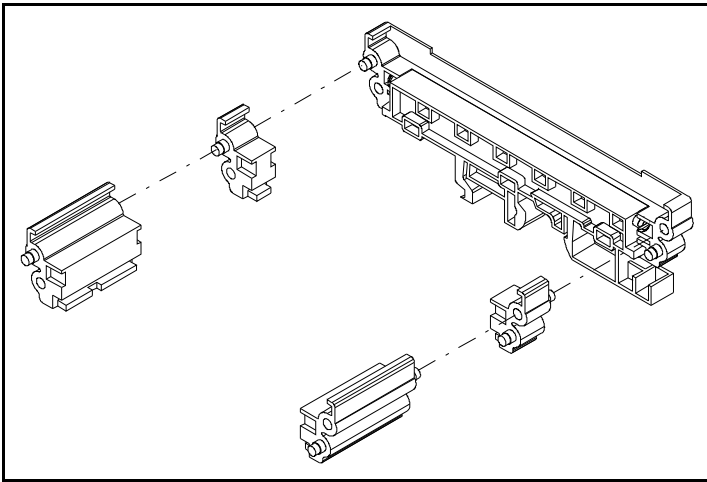

FIG. 3-6 INSTALLATION OF THE RAIL PIECES
- Step 2. Take one of the small rail pieces and insert the rail pins into the end piece. (See Fig. 3-6)
- Step 3. Take one of the large rail pieces and insert the rail pins into the small rail piece. Do this on both sides. (See Fig. 3-6)